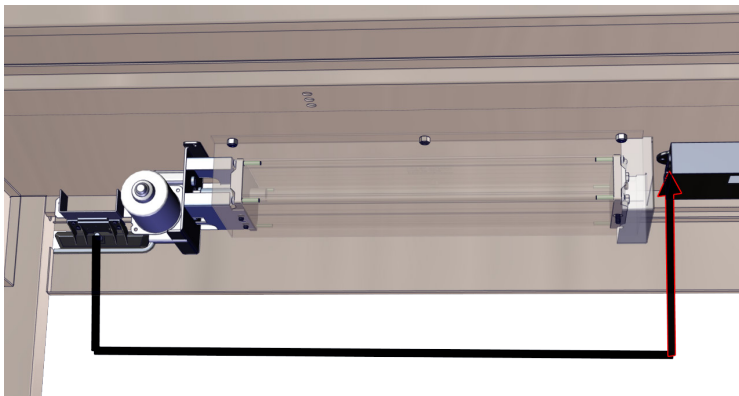

Fig. 6: Plug in Memory Control Pad cord to Power unit
3. Plug the control pad cable into the round receptacle of the table Power Supply Unit (Fig. 6).